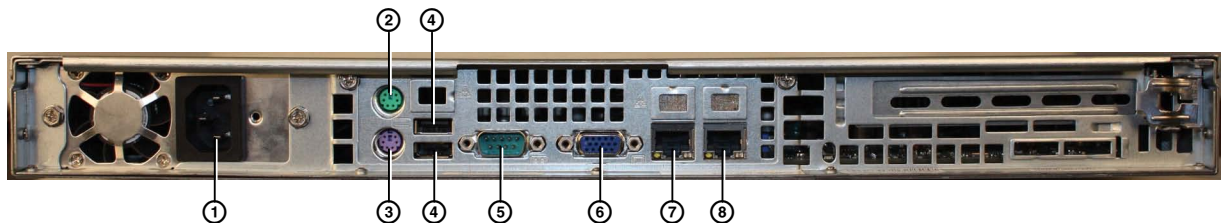

Figure 5. VNR 100 Rear Panel
2. Connect a standard IEC power cord to the rear panel power connector (① in figure 5).
3. Connect the VNR 100 to a network, using the rear panel Ethernet port 0 (② in figure 5). The VNR 100 must be controlled by an VNM Enterprise Controller connected to the network.